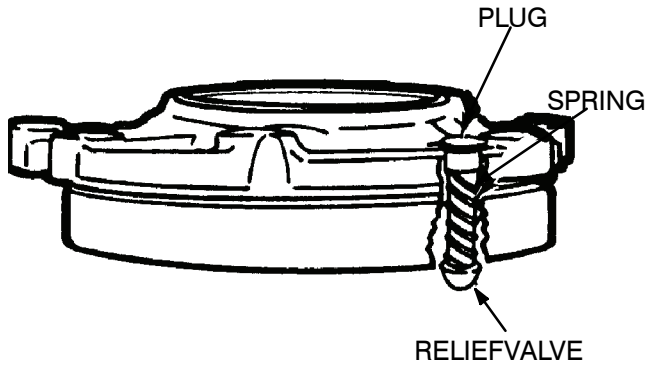

Figure 88.
- (5) If removed, install the pressure relief valve assembly in the input bearing cage. Install the relief valve, the spring and the plug in the bore. Tighten the plug to 20–40 lb–ft (27–54 Nm). Figure 88.